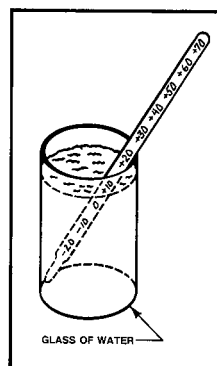

FIGURE 13
**REFRIGERATOR:** To accurately check food temperatures without actually using food place the thermometer in a glass of water and place the glass in the middle of the refrigerator section. See Figure 13.